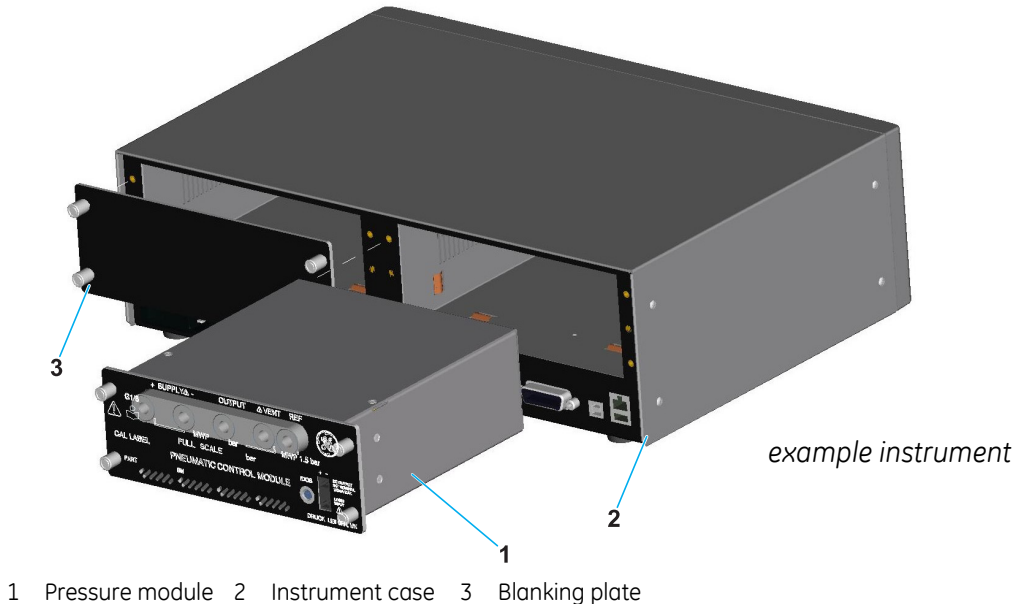

Figure 4-3 Pressure module
4.9 Pressure module replacement (Fig 4-3)